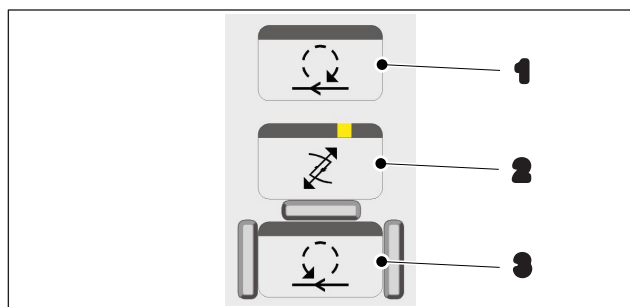

Fig. 24 Inching mode
- Forward (Fig. 24/1)
- Control panel selection (Fig. 24/2)
- Backward (Fig. 24/3)